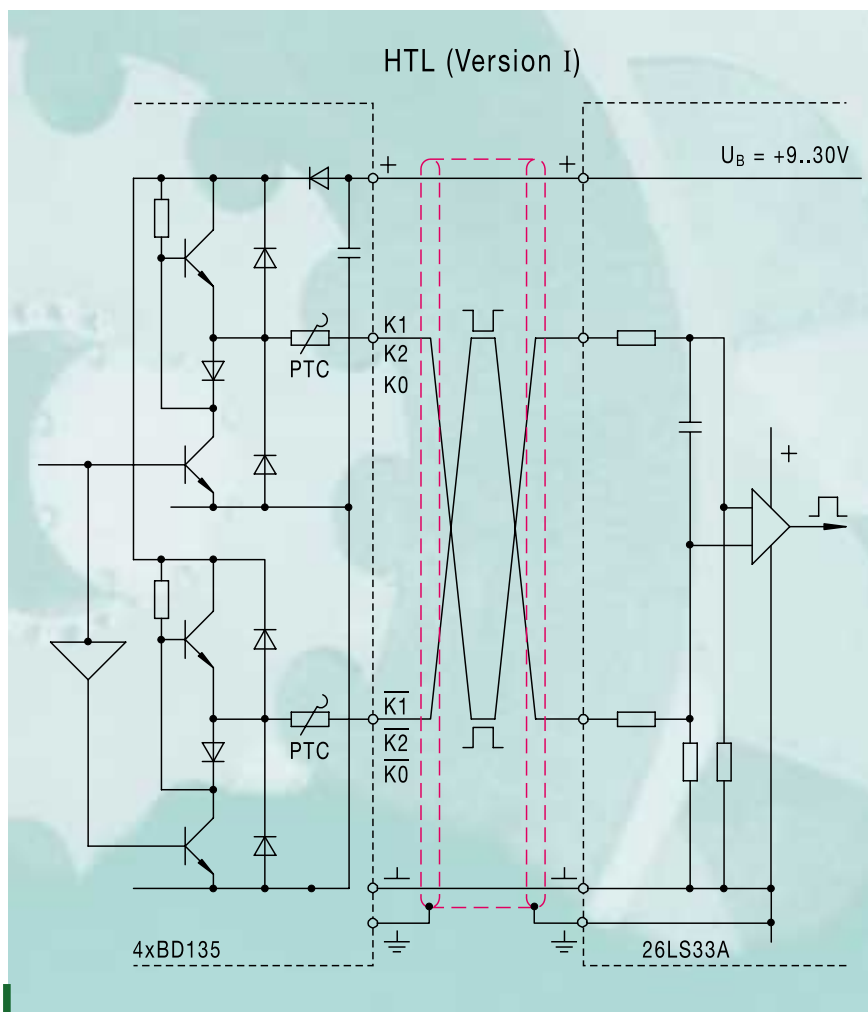

Figure 8: HTL technology with inverted signals: for the best possible transmission reliability.
■ **HTL ... I technology with inverted signals:** For the transmission of signals over very long cables, HTL technology is also available with inverted signals as an option. Twice the number of power transistors are provided (➡ Figure 8).